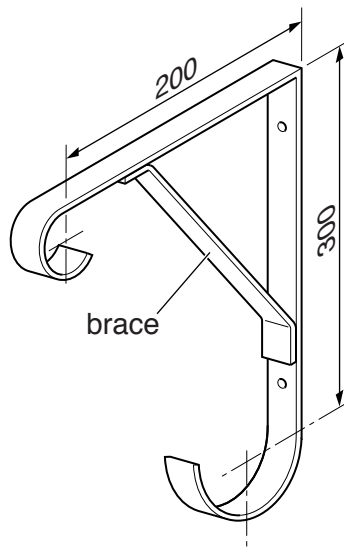

Fig. 6
- 9 Fig. 6 shows a mild steel bracket for a hanging basket.